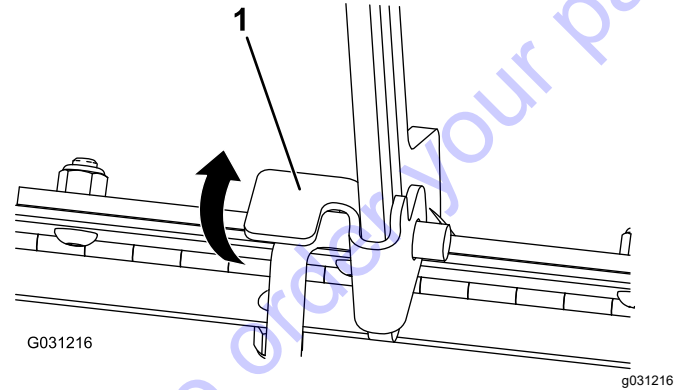

Figure 33
1. Lift up on the tab securing the prop rod (Figure 33)